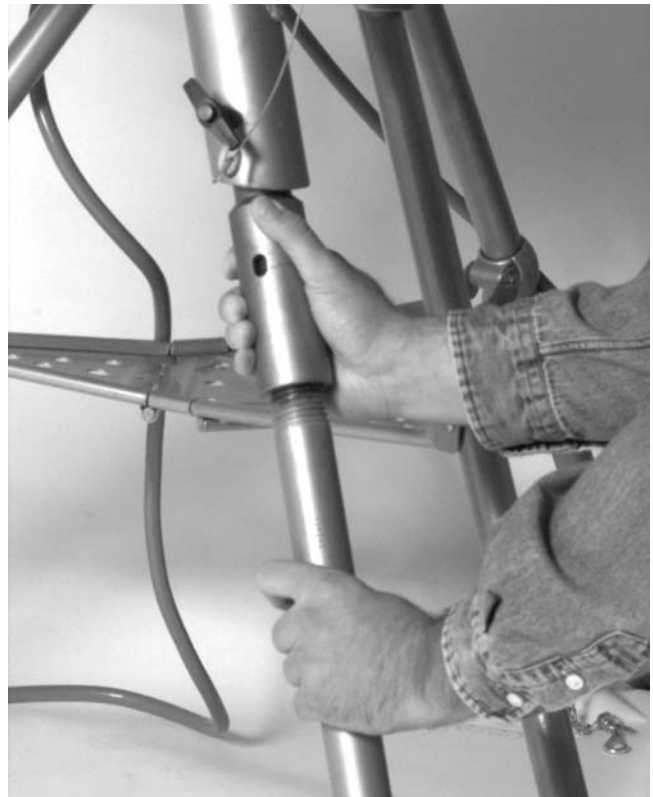

Figure 6 – Adjusting Legs to Level Groover
7. Turn the upper portion of the leg counterclockwise until it makes contact with the ground. Adjust both legs until the unit is level (Figure 6).